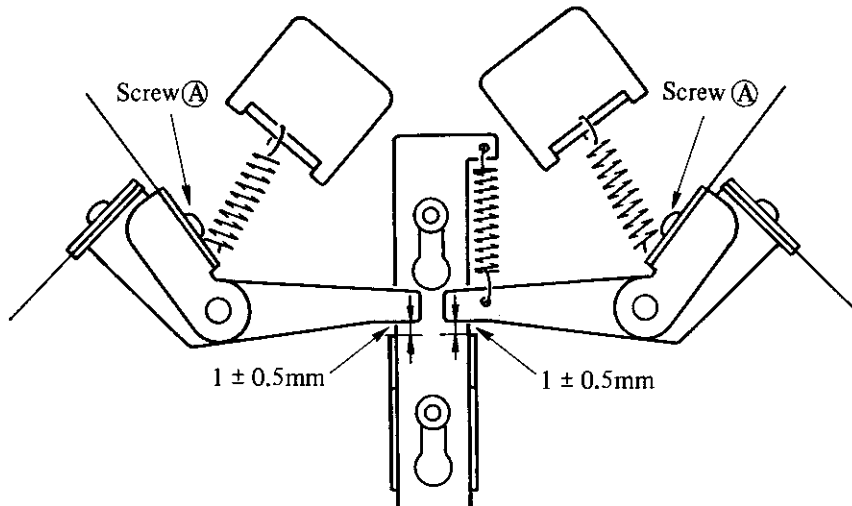

Fig. 4.4
The distance between Brake Arm and Brake Slider must be in  $1 \pm 0.5\text{mm}$  as shown in the Fig. 4.4 below. The distance can be adjusted by adjusting the position of Brake arm with the screw (A).